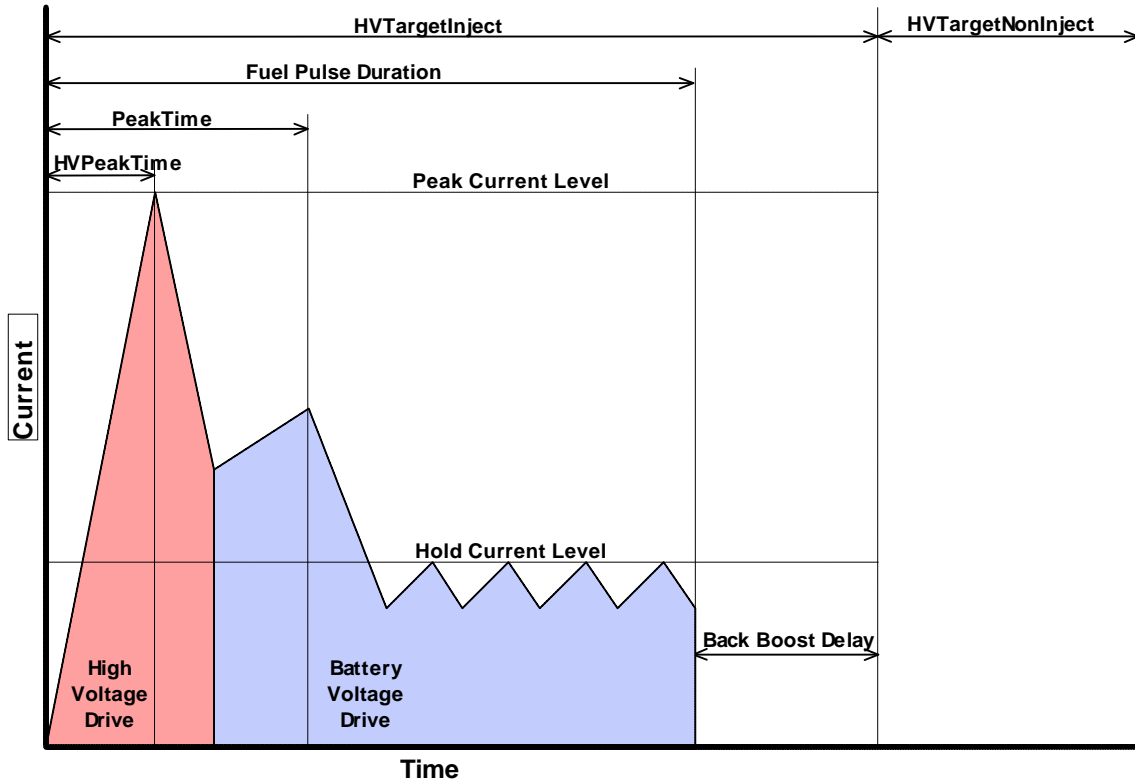

Figure 3. Injector solenoid current profile with labeled control parameters.
Step 3: Make calibration assignments. There are seven calibration values with which we need to be concerned. Each one will be described below in reference to the current profile shown in figure 3. The parameters contained within the UserCalParams cluster are parameters which are communicated once to the module upon setting the CalibrateNow boolean. The UserCalParams cluster contains six parameters which are discussed below. The PeakTime (msec) parameter, found on the Injection Control tab, is continuously communicated to the module.